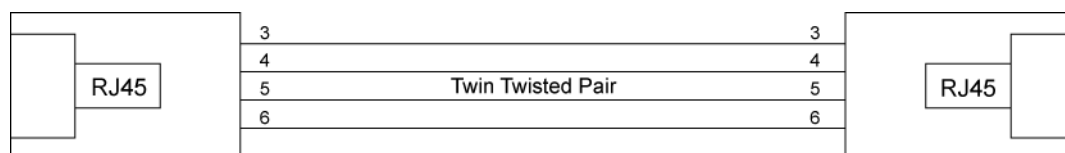

Figure 2-27: BRT(1)-B13 ETU Connection Cable
6. Run the BRT cable from the ETU to the external NT-1 (the interface box installed by the ISDN service provider). A twin twisted-pair cable is required, terminated at each end with an RJ-45 plug in a 1-1 configuration. CAT-5 or similar cable is recommended. (Refer to *Figure 2-27: BRT(1)-B13 ETU Connection Cable*, Pg 66.)